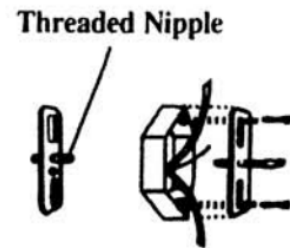

FIG.2 FIG.4
b) Insert threaded nipple into crossbar. (FIG.2)